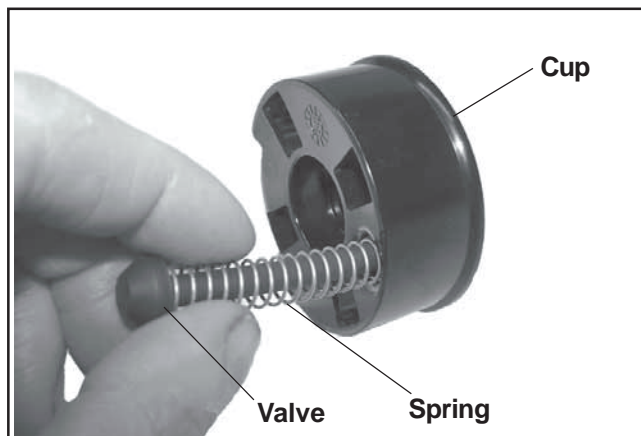

Figure 10-64. Installing Valve and Spring to Cup.
1. Install the small spring onto the rubber valve, and insert the small end through the corresponding hole in cup until properly seated. See Figure 10-64.